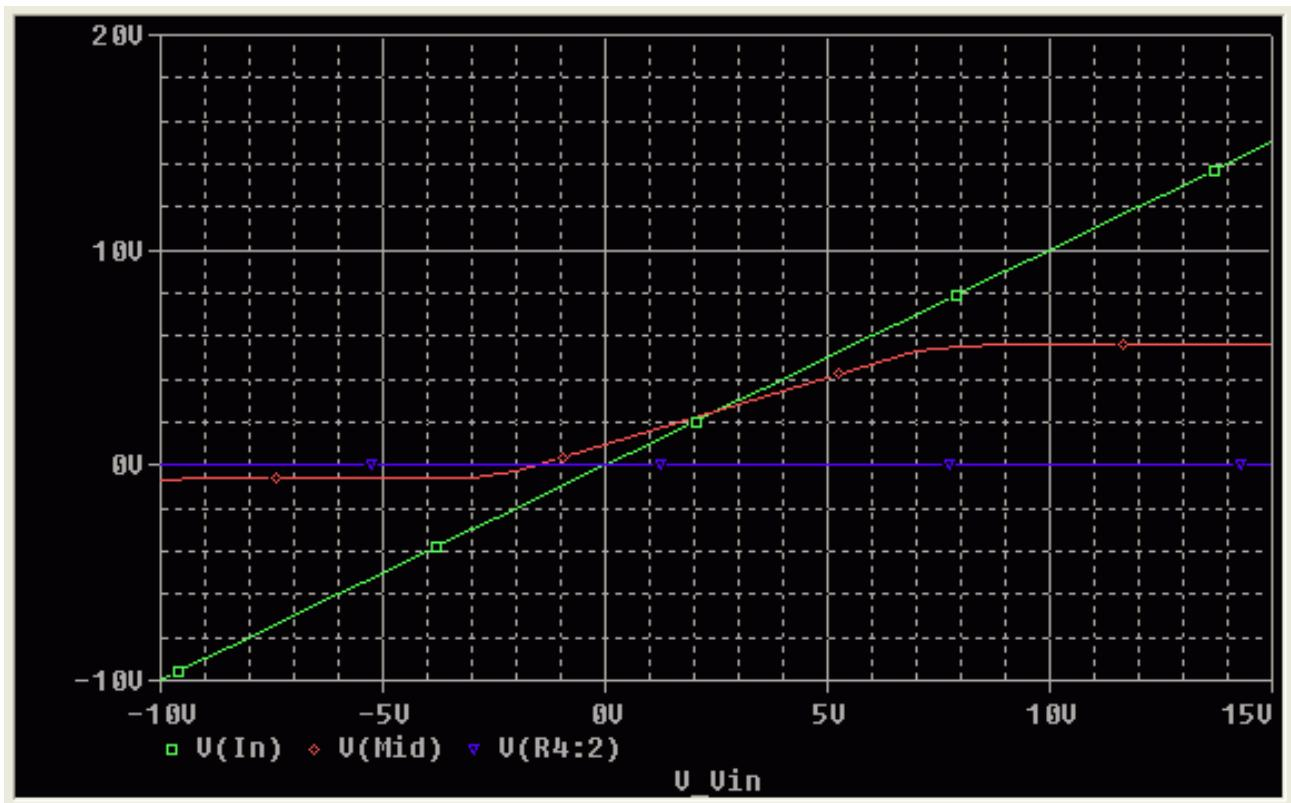

Figure 2-11 Voltage at In, Mid, and Out.
5. Switch to PSpice. The V(Out) waveform trace appears, as shown in Figure 2-11.